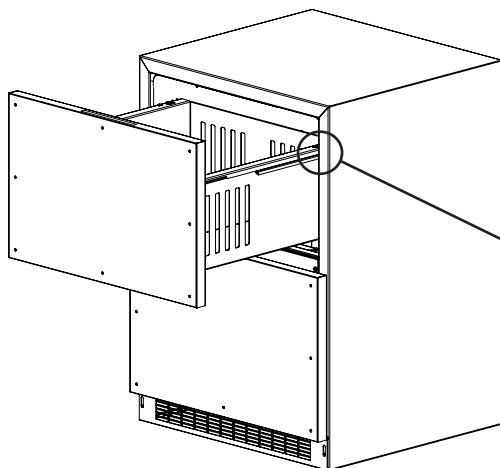
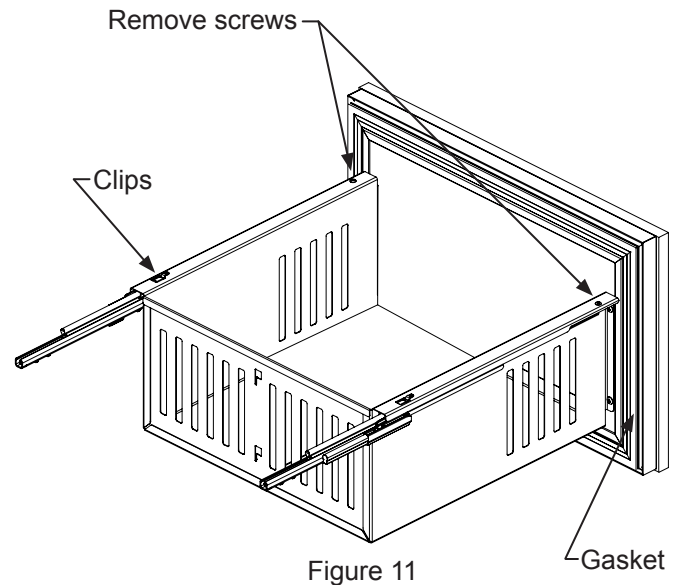
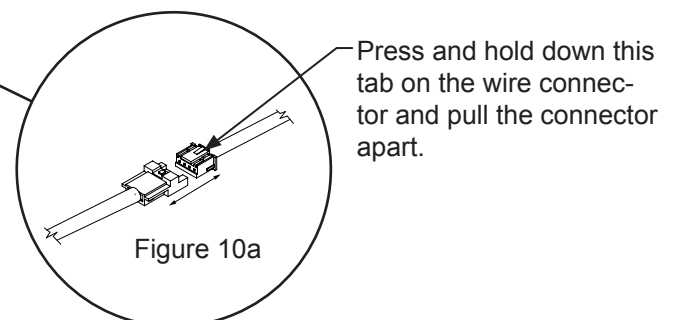

Figure 10
Figure 11
Figure 10a
1. Begin by pulling out the top drawer. (See Figure 10). Remove screws securing drawer to slides (See Figure 11). Pull drawer forward, lift up and out to clear clips in rear of drawer. Move drawer forward about 1" (2.5 cm) and set down on slides. At the right rear corner of the drawer disconnect the display wire harness (See Figure 10a). Remove the drawer from the unit by lifting up off of the slides. Repeat for bottom drawer but disregard the harness instructions as there is no wiring to the bottom drawer.
2. Remove the gasket from the drawer front. (See Figure 11). Do this by pulling the gasket out of the channel that holds it to the drawer front. This will expose the clearance holes for mounting the overlay panel. (See Figure 15).